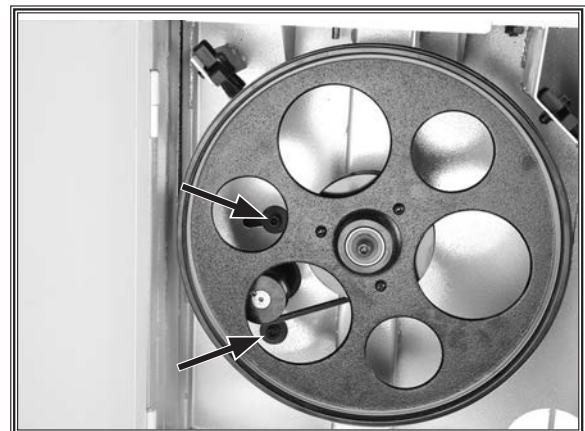

Figure 88. Motor mount cap screws and V-belt tension controls (behind wheel).
5. Loosen both motor mount cap screws (see **Figure 88**).